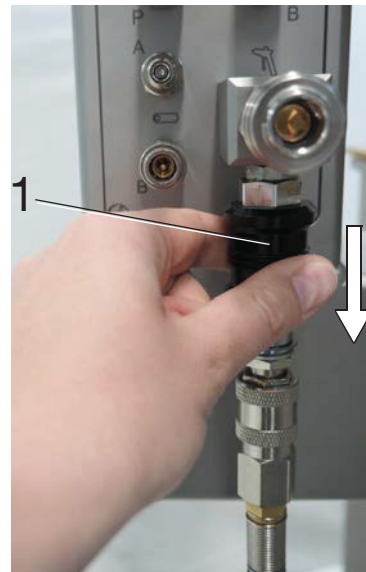

Fig. 7-1 Arrow: pointing against the direction of flow
- Push the air release valve (1, Fig. 7-1) against the direction of flow (see arrow, Fig. 7-1), thereby opening it.